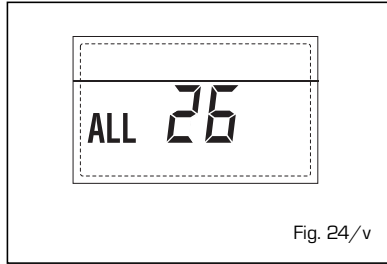

Fig. 24/v
- **SOLAR APPLICATION COHERENCE ANOMALY "ALL 27" (fig. 24/w)**